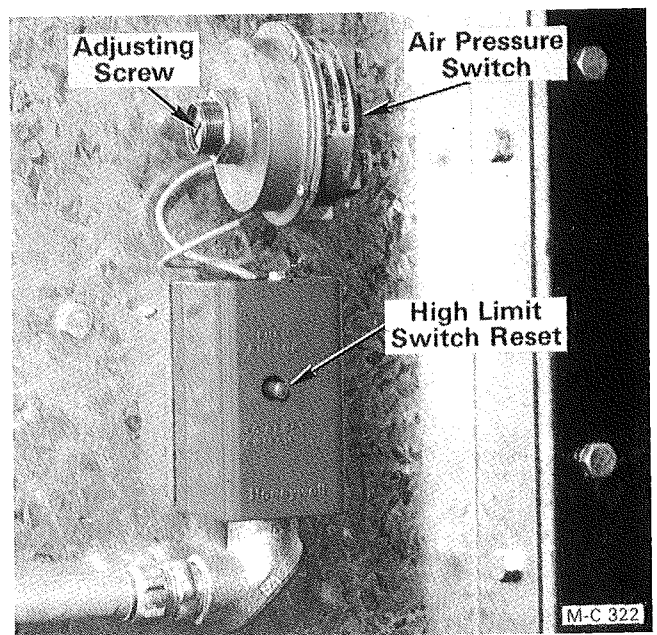

Figure 47
- D. Remove the air pressure switch cover and disconnect the two wires at the back of each air pressure switch (there is one for each burner), see Figure 47. Connect the two wires together with a short jumper wire. Do not allow the jumper wire to come in contact with any metal. This will by-pass the air pressure switch.
- E. Turn on the electric power supply to the dryer. The POWER, HIGH LIMIT and AIR PRESSURE lights will be ON. If the high limit light is not on, push the reset button on the high limit switch, see Figure 47, page 29.